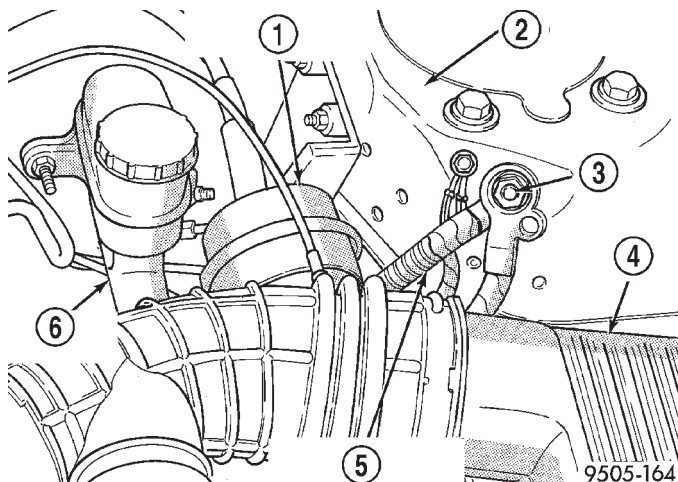
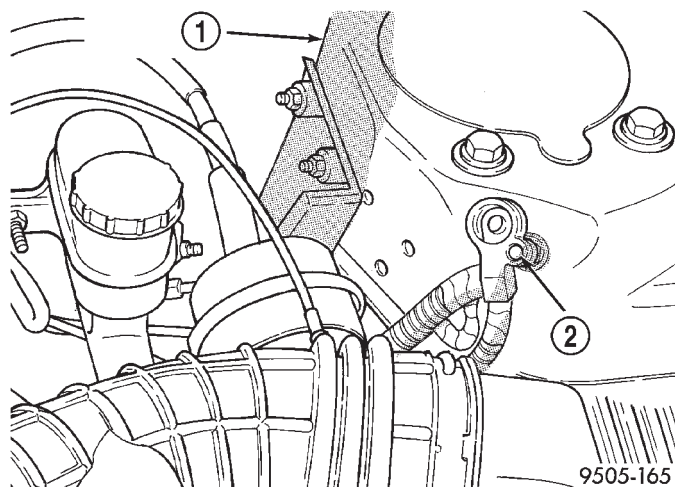

Fig. 4 Remote Ground Cable At Shock Tower
Fig. 5 Correctly Isolated Remote Ground Cable
(1) Remove remote ground cable (Fig. 4) from ground stud on shock tower. Then correctly isolate ground cable from vehicle by installing isolator on stud (Fig. 5).